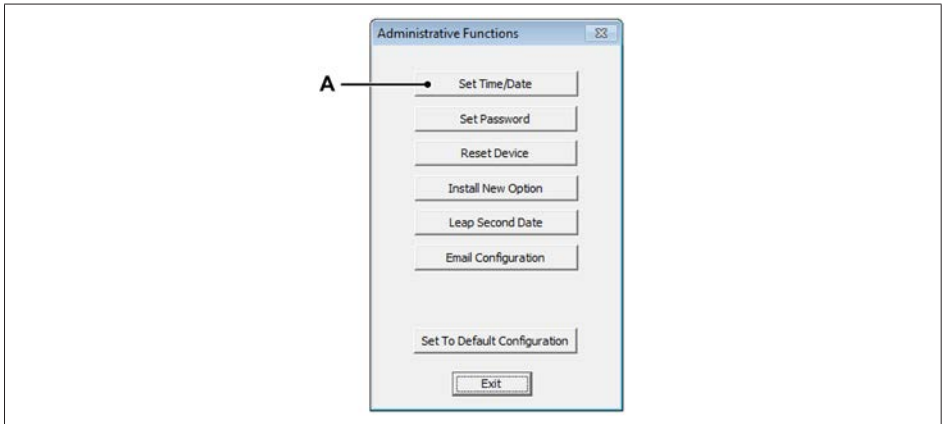

Fig. D.26 Administrative Functions - GMR1000
9. Edit the date by clicking on the **Set Time/Date** button in the **Administrative Functions** dialog (see Fig. D.26).